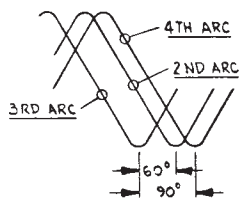

FIG. 1
- (A) ONE WAY TO VERIFY PROPER PHASE ANGLE AND PHASE SEQUENCE IS TO USE AN OSCILLOSCOPE AS FOLLOWS:
- 3.) CONNECT THE SCOPE INPUT TO EACH AC NOZZLE AND NOTE THE TIME OR PHASE DIFFERENCE BETWEEN ALL THREE. THEY SHOULD LOOK LIKE FIG. 1.